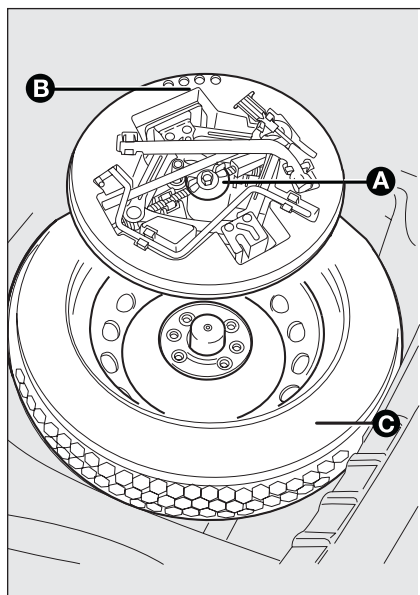

fig. 10
- loosen the fastening device **A-fig. 10**;